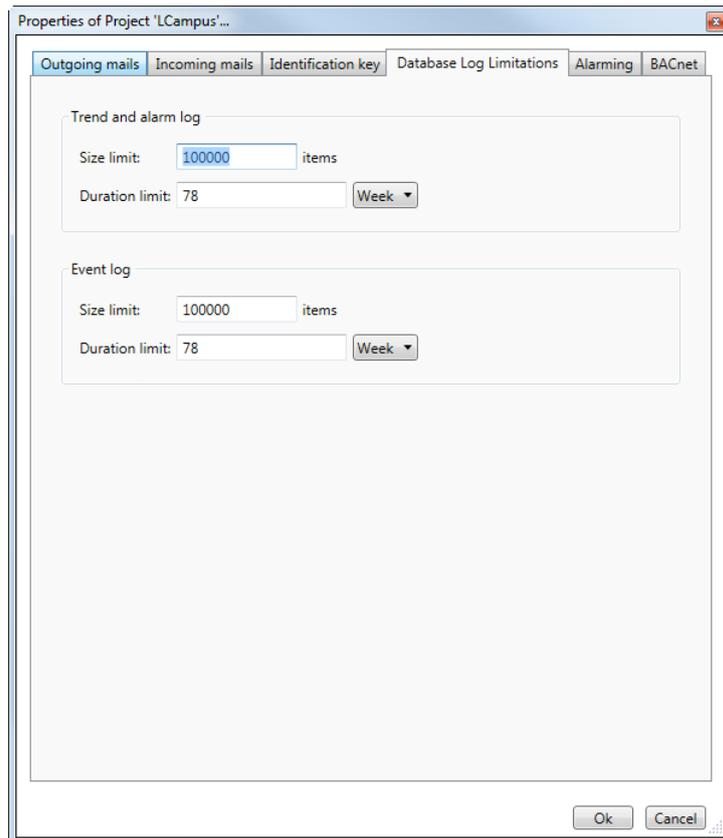

Figure 139: Database Log Limitations
2. The trend and alarm log size is limited by the following parameters (see Figure 139):